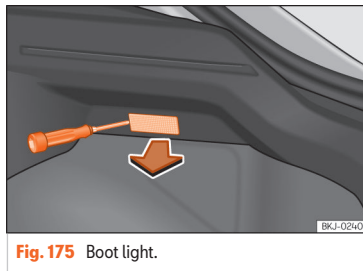

Fig. 175 Boot light.
- Extract the bulb by pressing on its inside edge using the flat side of a screwdriver >>> Fig. 175.